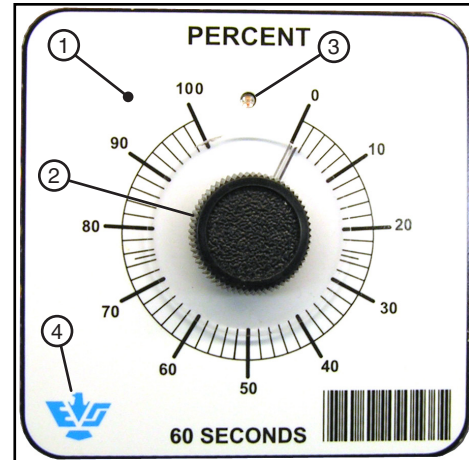

Figure 32-1 1. Eagle Solid State Percent Timer
- Machine Running: When a change is made to the Eagle solid state percent timer setting during operation, the change is not immediately recognized by the percent timer. First the percent timer completes the current cycle at the previous setting, then after the cycle ends the change is recognized and the percent timer begins working at the new setting. See Figure 32-1.